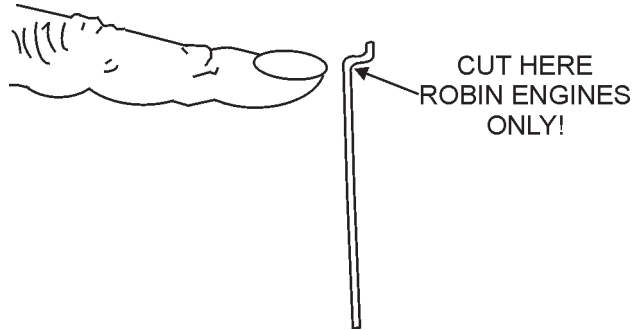

Figure 11. Throttle Wire Hook
- On **ROBIN** engines, the **hook-on** the engine end of the throttle wire must be removed. Make the cut as shown in Figure 11. The **HONDA** engine will not require this modification to the throttle cable.